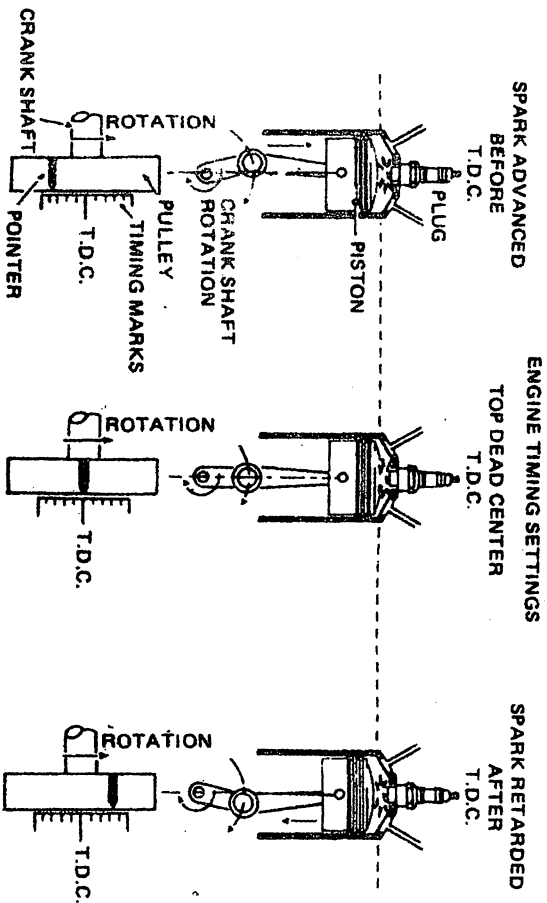

Figure 1
Timing is given in degrees Before Top Dead Center (BTDC) or After Top Dead Center (ATDC) in the manufacturer's specifications. In order to completely burn the air/fuel mixture in the car's engine cylinders, most timing is such that the spark occurs at a point several degrees before top dead center (for example, 4° BTDC) to assure that full power of the explosion is obtained. See Figure 1.
Two additional terms the engine manufacturers use when describing timing are "Advanced" and "Retarded". As shown in Figure 1, when the timing is advanced the spark will occur before the piston reaches the top of the engine cylinder (BTDC). On some late model cars equipped with various emission control devices, the timing is retarded so that the spark occurs after the piston has started down in the cylinder (ATDC). Engine timing is changed by adjustment of the ignition distributor.
In order to allow setting and adjustment of the engine timing, special "Timing Marks" are provided on each engine during assembly. In most cases, these marks appear on the engine vibration damper or fan pulley at the lower front of the engine. See Figure 1. On some early engines, this mark was shown at the rear of the engine on the flywheel.
1. Locate engine-timing mark (see figure 1) and use a rag to clean all grease and dirt from the mark and the pointer. It may help to use chalk or white paint on the Marks to make them more easily seen.